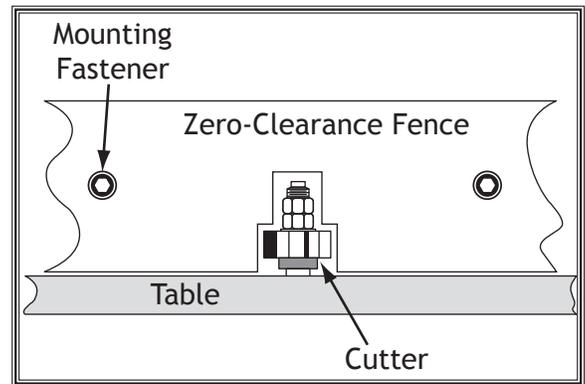

Figure 51. Example of a zero-clearance fence.
4. Cut an outline of the spindle and cutter from the center of the stock selected in **Step 3**, as illustrated in **Figure 51**.